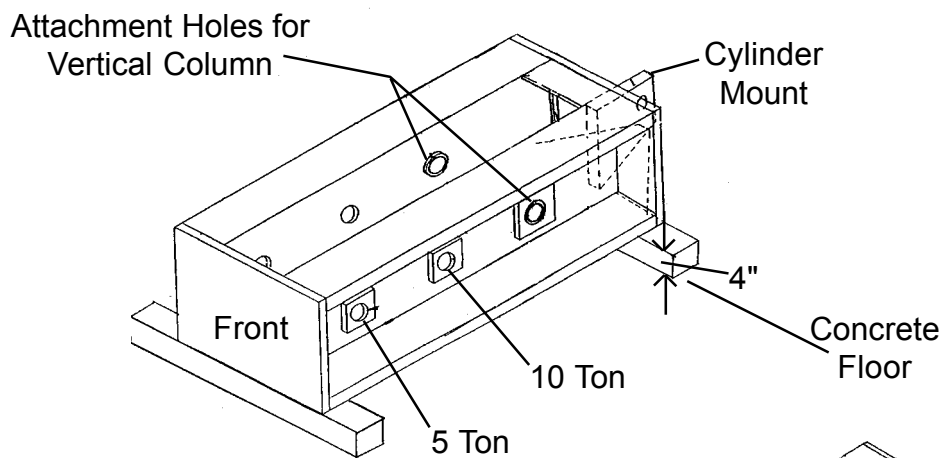

Figure 2
- c.) Select three long pins, item (7), and one orange colored size 1 1/4" master link, item (10), and one yellow colored size 1" master link, item (9). Also select six (6) M8x60mm long bolts, item (32), and six (6) M8 lock nuts, item (33) all shown on drawing 50979. Insert two (2) of the long pins in the pin holes labeled 5 ton and 10 ton, sliding them partially through the lower beam. Place the orange 1 1/4" master link on the pin at the 10 ton location and the yellow 1" master link on the pin at the 5 ton location. Now slide the pins the remainder of the way through the lower beam and secure them by placing the M8x60mm long bolt with lock nut at each end of the two pins, as shown in section A-A on drawing 50979.
- e.) Orient the vertical column in a vertical position with the attachment pin hole at the bottom and the attachment angle in a position pointing toward the front of the lower beam. See Figures 2 and 3.
- h.) Slide the third long pin, item (7), drawing 50979 through the attachment holes coupling the beam and column together. Install M8x60mm long bolts, item (32), and 8 lock nuts, item (33), as shown in section A-A on drawing 50979.
- c.) Before installing the outriggers place the six (6) M20x46x100 bolts, item (13), with six (6) 3/4" flat washers, item (54), through the holes on the rear flange of the vertical column. These bolts will be used to attach the cylinder mount during a later step in the assembly instruction. These bolts must be placed with the threads pointing toward the rear of the load tester and must be inserted prior to the installation of the outriggers to avoid interference.
- d.) Fix both outriggers into position using four (4) M16x65mm long bolts, item (16), pushing through the lower attachment holes of the outriggers and through the attachment holes on the base. Secure the outriggers by placing M16 "U" washer, item (34), and M16 nuts, item (19), as shown on drawing 50979. Do not tighten these nuts until the remainder of the attachment bolts have been placed in the upper holes of the outriggers.
- e.) Align the upper holes of the outriggers and the vertical column attachment holes by using a drift punch until the four (4) M16x65mm long bolts, item (16), have been placed through the alignment holes at the top of the outrigger shown in drawing 50979. Secure the four (4) bolts with M16 flat washers, item (17), lock washer, item (18), and nuts, item (19).